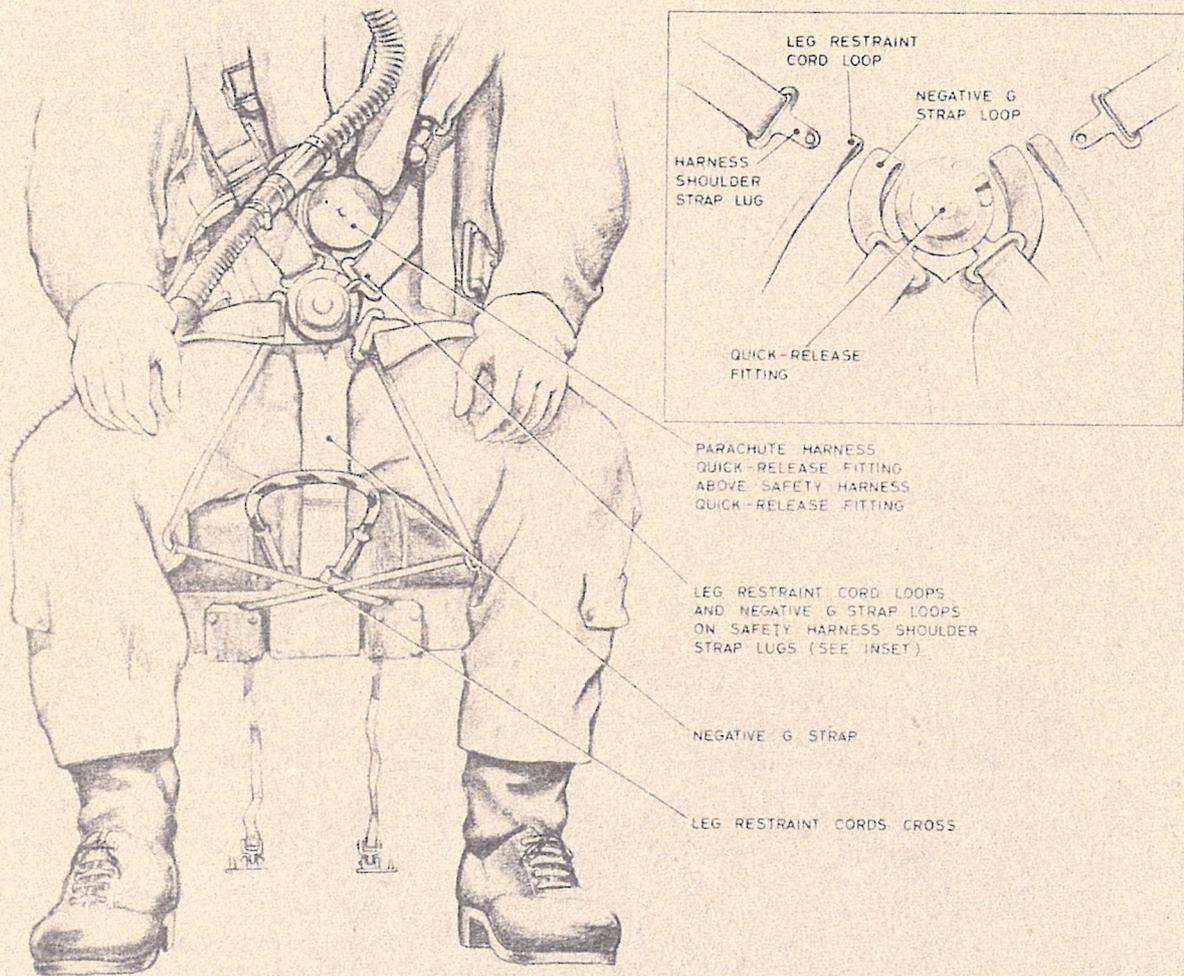

Fig. 4. Arrangement of leg restraint cords (inset: Assembly to quick-release fitting)
- (12) Draw the leg loop of the parachute harness out from under the survival pack so that it lies on the seat cushion. Arrange the parachute harness waist belt and leg straps on the seat, together with the safety harness lap straps and upper oxygen tube assembly. Drape the negative-G restraint strap OVER the seat pan firing handle.
- (13) Restore the seat to the safe for parking condition.
23. The strapping-in procedure is as follows; refer to fig. 4 to 6 for detail as necessary:-
- (6) Pass the parachute harness leg straps through the leg loop and couple the lugs to the quick-release fitting.
- (7) Adjust the quick-release fitting so that it lies centrally with the waistbelt close to the body.
- (8) Tighten the shoulder straps first so that the parachute harness quick-release fitting will lie above and clear of the safety harness quick-release fitting when assembled.
- (9) Tighten the parachute harness leg straps. When tightening harness straps, pull on the running end with one hand and push on the standing end with the other hand to relieve the tension on the buckles.
- (10) Connect the air supply hose to the air ventilated suit (if worn).
- (11) Fasten the lap straps of the safety harness but do not tighten.
- (12) Draw the negative-G restraint strap up between the legs and tuck the V-shaped end under the safety harness. Ensure that the negative-G restraint strap is clear of the seat pan firing handle.
- (13) Thread the leg restraint cords through the quick-release coupling rings on the garters as follows :-
- (a) Pass the cord emerging from the snubbing unit behind the left leg through the garter ring on the right leg and UNDER the safety harness lap strap. Insert the lug of the safety harness right shoulder strap through the loop at the end of the leg restraint cord and also through the loop at the end of the right branch of the negative-G restraint strap. Secure the lug in the quick-release fitting (see inset of fig. 4).